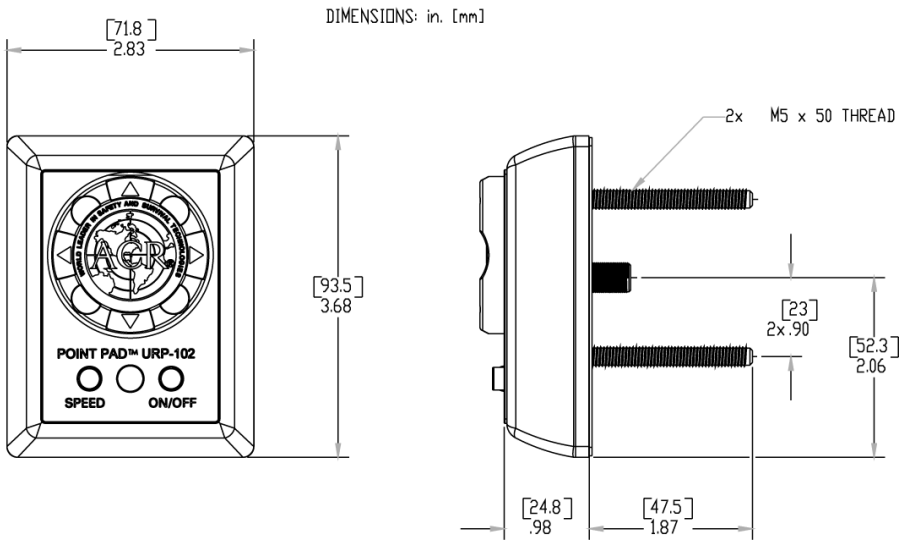
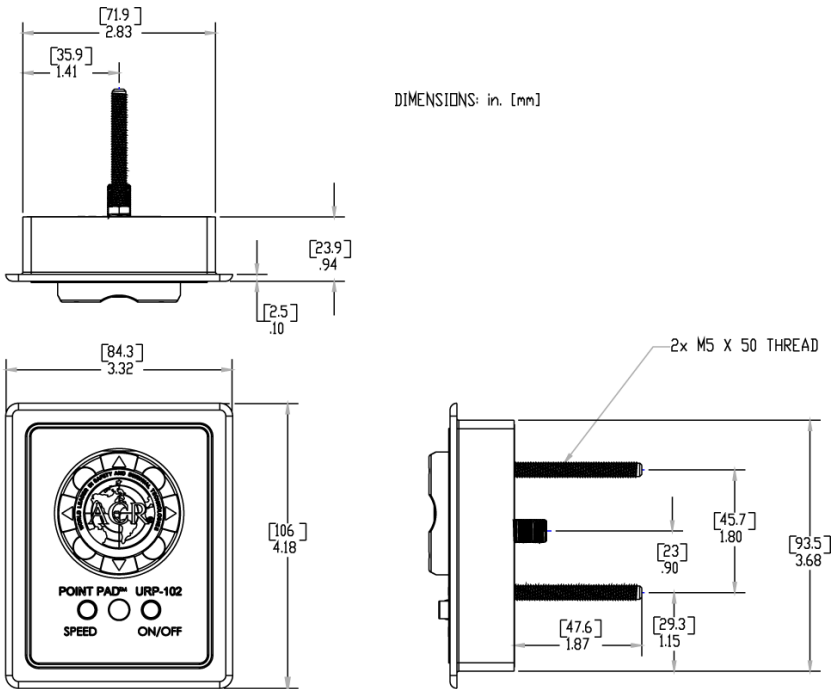

Figure 4- URP-102 Point Pad™ Surface Mount Case
Figure 5- URP-102 Point Pad™ Flush Mount Case
The URP-102 Point Pad™ is supplied as a surface mount unit (see Figure 4). A flush mount option is provided (see Figure 5). To switch mounting options, unscrew the six (6) screws on the unit's back plate and remove the front cover. Fit the Point Pad™ with the flush mount cover, replace the back plate, and screw the unit back together.